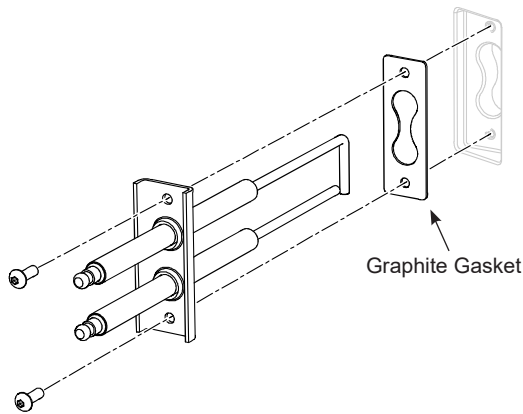

Figure 32: Igniter Electrode Assembly
- e. Install igniter electrode in the orientation shown in Figure 32; otherwise, the unit will not light.